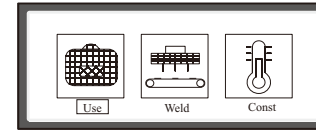
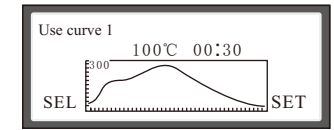
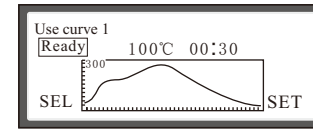

Fig. 17
Fig. 18
Fig. 19
(1) After pressing “POWER SUPPLY”, “PRODUCTION” turns into highlighted state. Press “PAGE UP” button to turn “PRESET” into highlighted state, which means being selected as shown in Fig. 17. Press “RUN” button to confirm entry as shown in Fig. 18. Press “PAGE UP” button and “PAGE DOWN” button to conduct the setting of “Lead Soldering 1”, “Lead Soldering 1”, “Lead Soldering 1” and “Lead-Free Soldering”.
(2) After selecting “Lead Soldering 1”, press “SET” button to conduct setting as shown in Fig. 19. Press “SET” button to switch “Heating Zone”, “TEMPERATURE” and “TIME”. Press “PAGE UP” button and “PAGE DOWN” button to conduct the setting of “TEMPERATURE” and “TIME”. Press “RUN” button to exit as shown in Fig. 18. Press “RUN” button again to select as shown in Fig. 20. After saving the preset is successful, it will automatically switch to main interface of “PRESET”, “PRODUCTION” and “CONSTANT TEMPERATURE”, as shown in Fig. 17. After entering “PRODUCTION” interface, the time and temperature values are preset values.